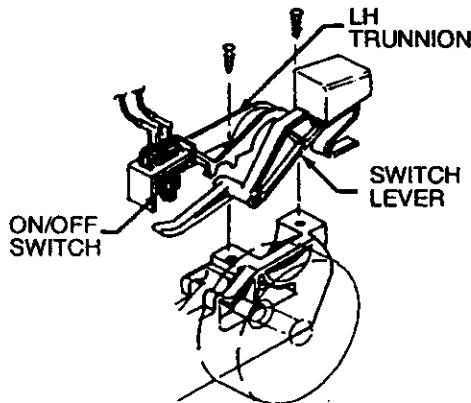

Fig. 22
1. The L.H. trunnion houses the on/off switch and traps the switch lever. (Fig. 22)